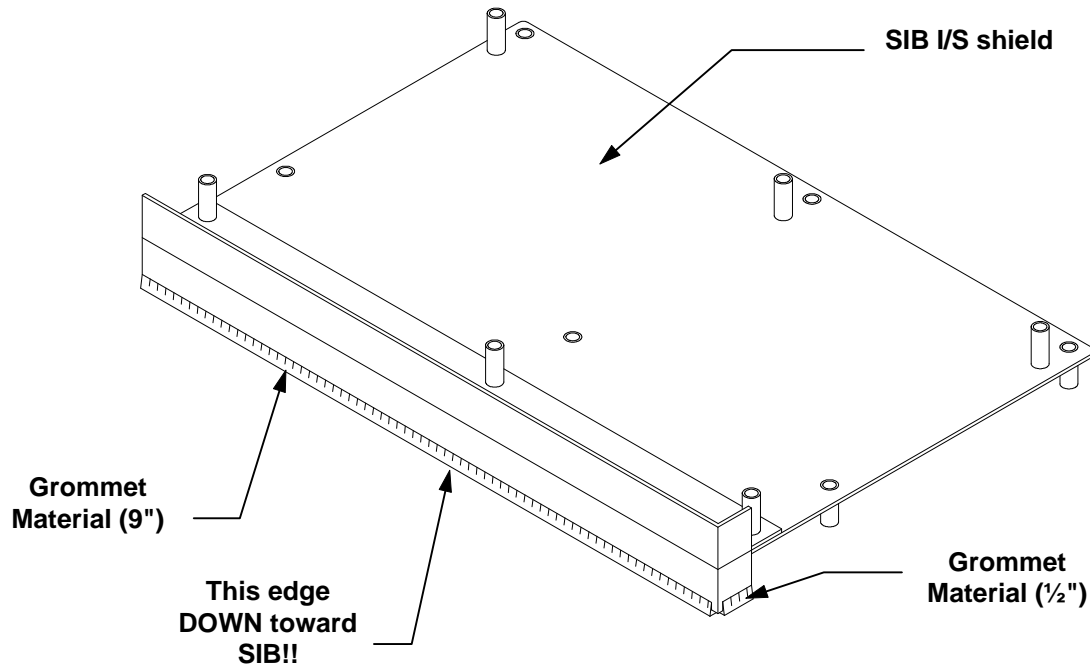

Figure 5 Location of Grommet Material on the SIB I/S Barrier
14. Cut a 9" piece and a ½" piece of the supplied grommet material and install them on the underside edge of the SIB I/S shield. **Make sure that this is the edge that contacts the SIB.** Refer to figure 5.